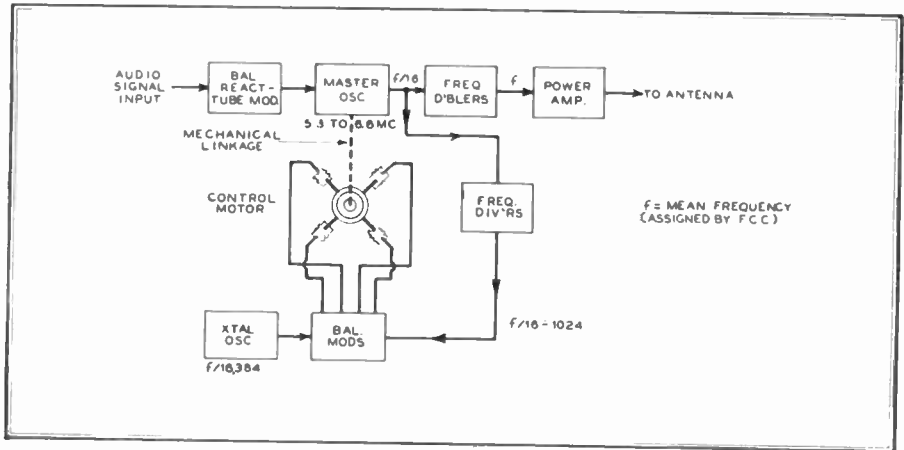

FIG. 9. ELEMENTS OF THE WESTERN ELECTRIC CENTER-FREQUENCY CONTROL
**Review of Basic Circuit** ★ The operation of the Western Electric FM system can be understood by referring to the block diagram, Fig. 9.